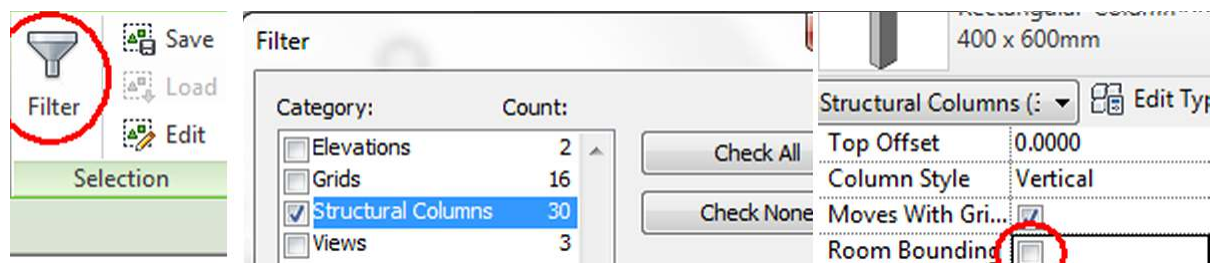

Fig. 2.8 – Remove Room Bounding property
3. In Properties palette, set Room Bounding = ☐ False (Fig. 2.8).